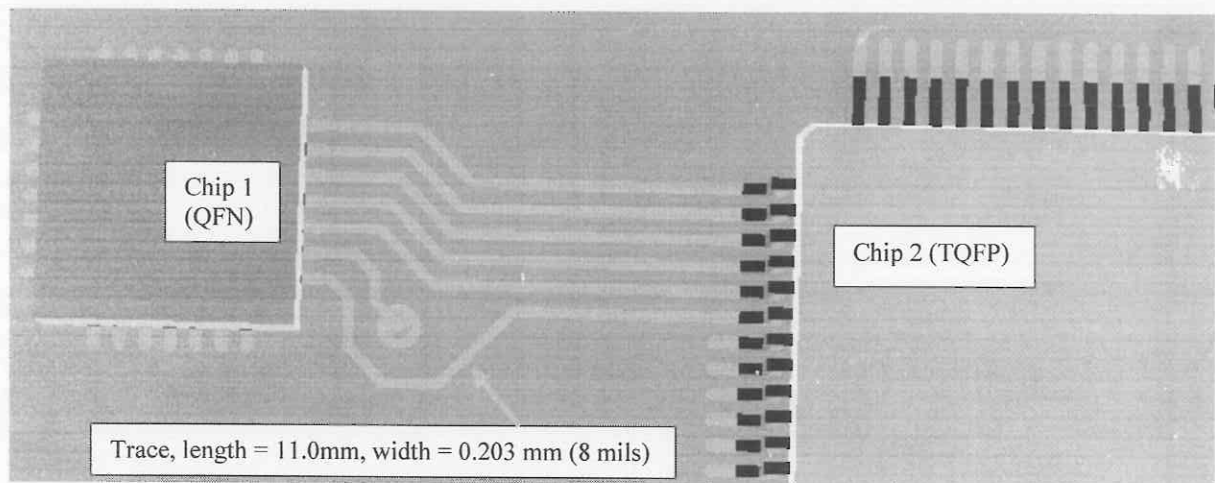
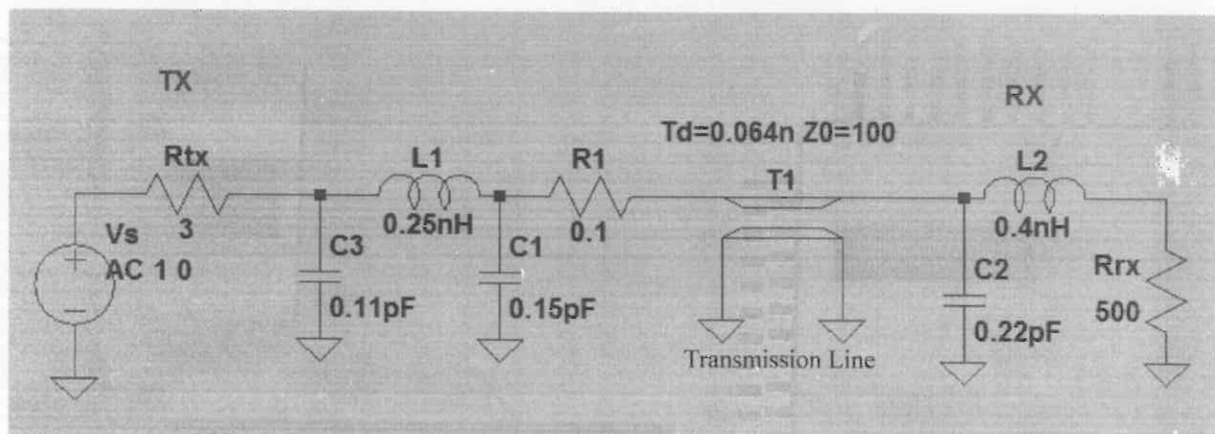
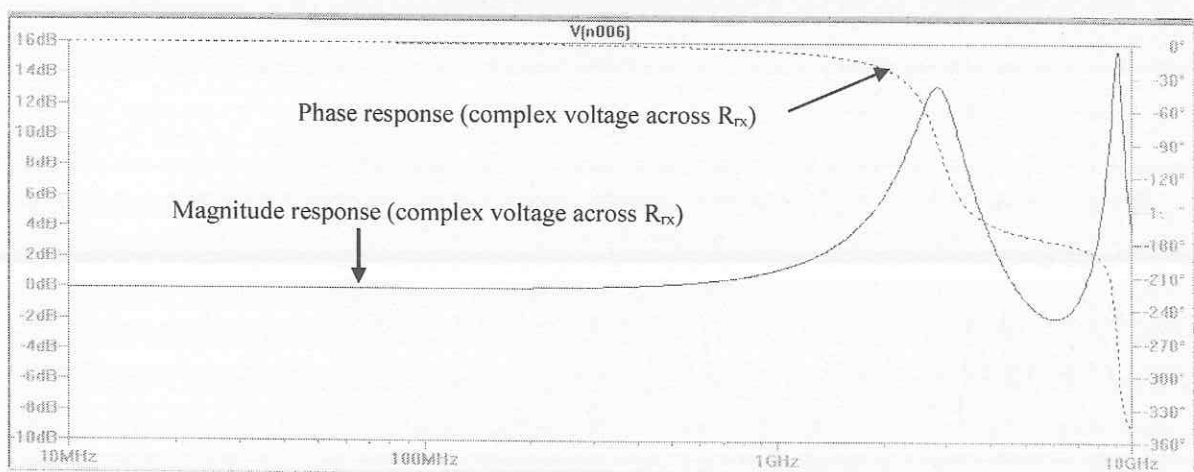
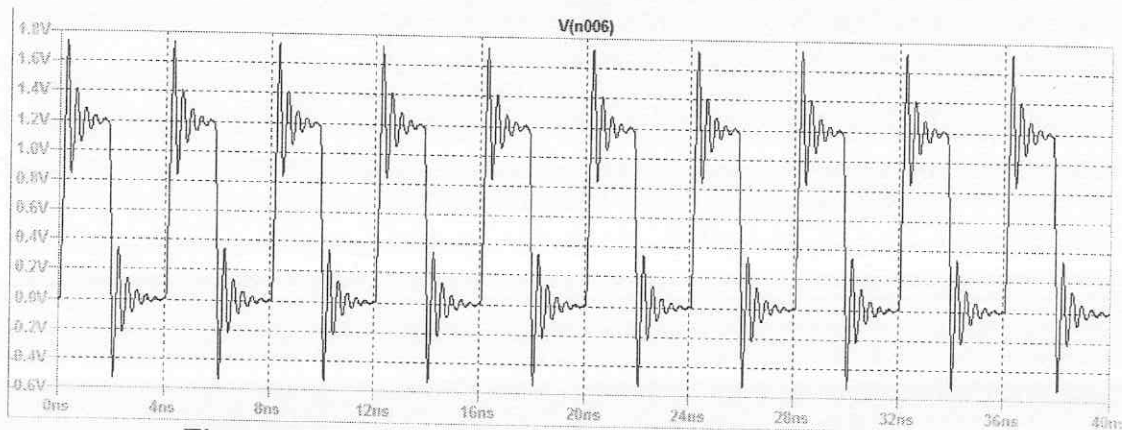

Figure Q3B – A small section of a PCB with two chips.
Figure Q3C – The equivalent electrical circuit for the interconnection between TX in Chip 1 and RX in Chip 2.
Figure Q3D – Frequency response of the interconnection (from TX to RX), measured at R_{rx} .
Figure Q3E – Time-domain voltage across R_{rx} inside Chip 2.
- (c) A portion of the top view of a PCB with two chips (in TQFP and QFN packages) is shown in Figure Q3B. Chip 1 on the left contains a high-speed transmitter (TX) on the die while Chip 2 on the right contains a receiver (RX) on the die. The TX and RX are connected by an 11.0 mm long copper trace on the PCB. The width of the trace is 0.203 mm (8 mils). A ground plane is underneath the trace. The PCB substrate that separates the trace and ground plane, has a thickness of 0.46 mm with $\epsilon_r = 4.4$ and $\mu_r = 1.0$. Ignoring interaction with adjacent traces, the equivalent electrical circuit between TX and RX is shown in Figure Q3C, and the frequency response from 10 MHz to 10 GHz is shown in Figure Q3D.
- Assume V_s (of Figure Q3C) is a pulse generator, sending a stream of periodic digital pulses with amplitude of 1.2V, pulse width of 2 nanoseconds, and rise/fall time of 200 picoseconds. Estimate the bandwidth of the digital pulses, stating the rule-of-thumb used.
- Briefly explain the need for the transmission line element in the equivalent circuit of Figure Q3C.
- The time-domain waveforms of the received voltage at RX (i.e. voltage across R_{rx}) is captured in Figure Q3E. Based on the voltage waveforms in Figure Q3E. Estimate the percent overshoot and undershoot of the digital pulse signal at RX, and explain, from the perspective of signal integrity why the time-domain signal at RX is badly distorted. *Hint: Use the data in Figure Q3D.*